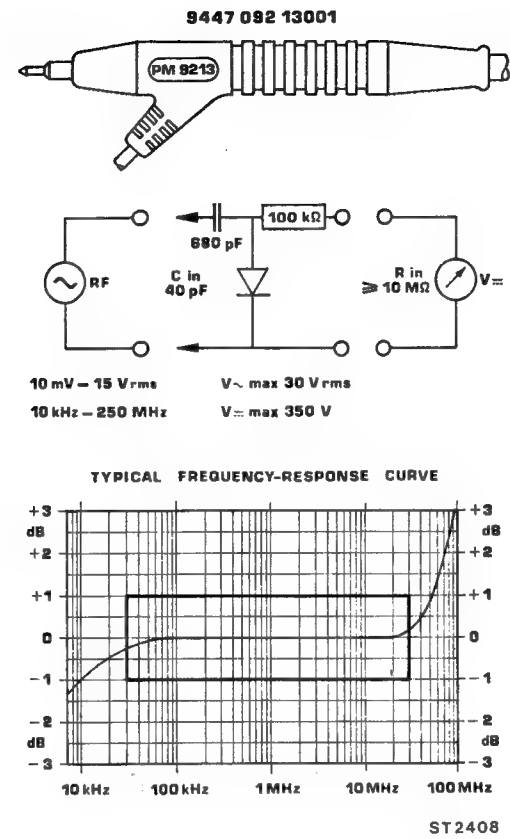

Fig. 7. RF-probe PM 9213
3.2.5. RF probe PM 9213 (Fig. 7)